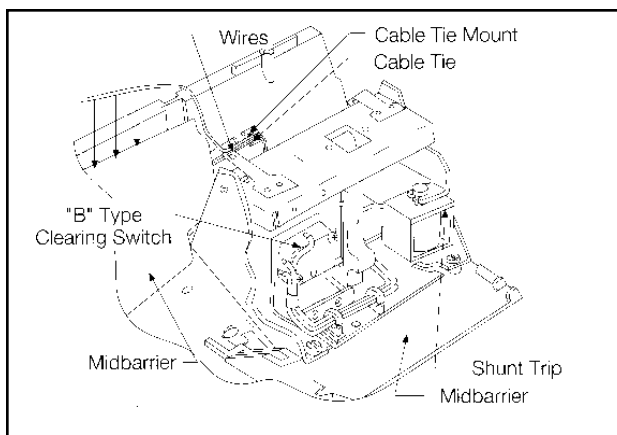

Figure 5.
- 9.) Add cable tie mounts and cable tie as directed in accessory instructions (See Figure 5)